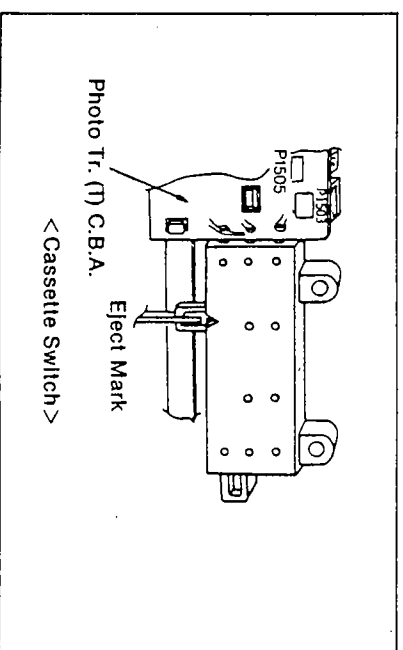

Figure M54
1. Confirm that the Cassette Compartment is aligned properly. In the EJECT position (Cassette Holder up and advanced to the front) the two V-shaped marks on the slide switch should align. The slide switch is located on the right side of the Cassette Assembly towards the rear as shown in Figure M54.